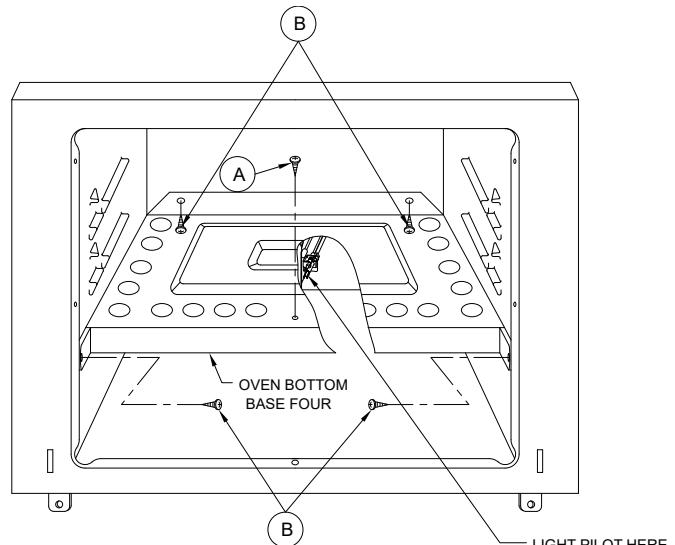

Figure 7
To Remove: When cool, remove the oven rack. Remove the one(1) screw and nut that secures the oven burner assembly to the oven bottom (A Figure 7). Remove the four (4) screws that secure oven bottom to the oven sides and back (B Figure 7). Hold oven bottom and slide it out of the oven.
To Replace: Position oven bottom rear flange to align with the two holes in back of the oven. Secure with (2) screws. Secure oven bottom to oven sides with the two (2) screws (see B Figure 7).